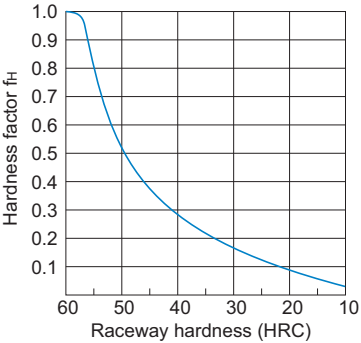

Fig.10 Hardness Factor (f_H)
- C : Basic dynamic load rating (N)
- P_c : Calculated load (N)
- f_H : Hardness factor (see Fig.10 on B1-75)
f_H : Hardness factor (see Fig.10 on B1-75)